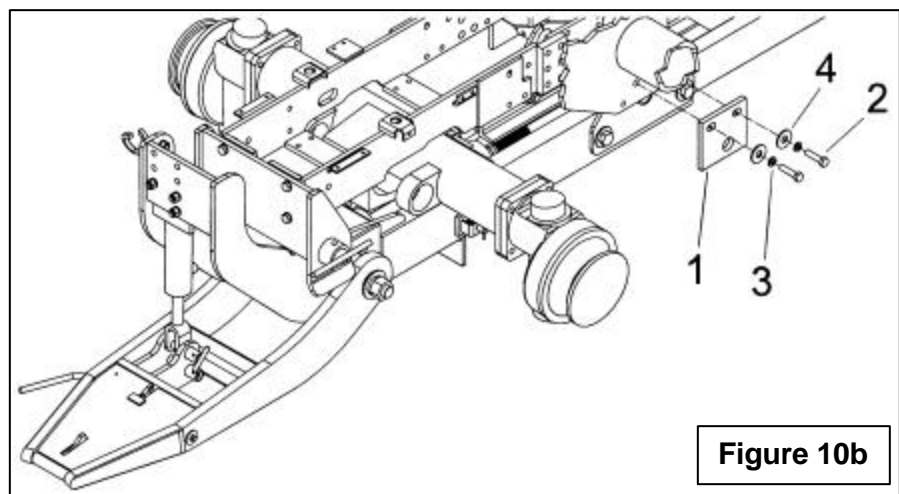

Figure 10b
- **If you own the front loader,** Place the mid support installation plates (item 1) as shown on figure 10b and attach to each side of the tractor using M16 x 1.5 x 55mm lg hex. bolts (item 2), 16mm lockwashers (item 3) and Ø 11/16" int. flatwashers (item 4). For now do not tighten the M16 x 1.5 x 55mm lg hex bolts (item 2).